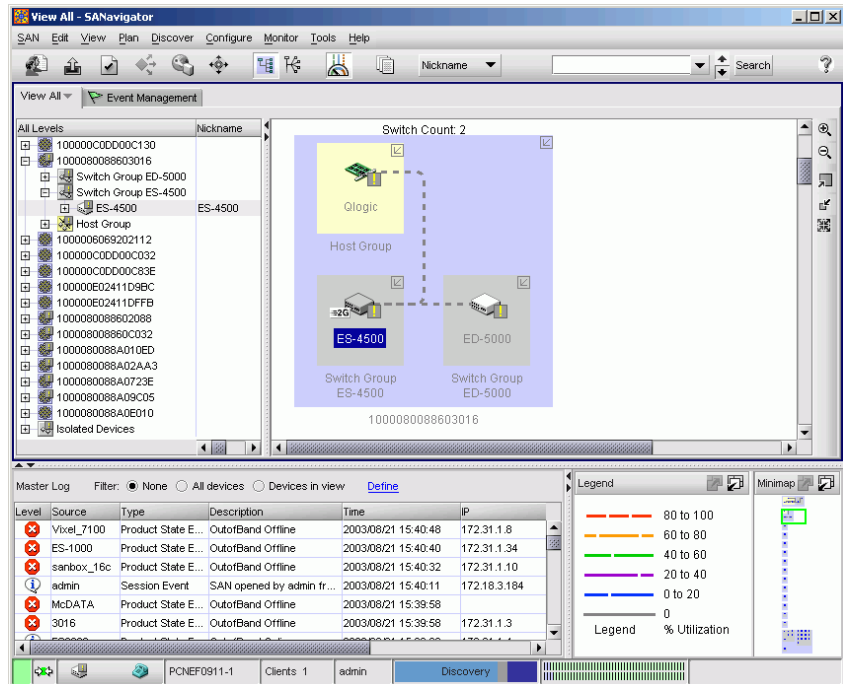

Figure 3-9 Main Window (SANavigator or EFCM)
- f. Type a user ID and password (obtained in step 1, and both are case sensitive), and click *Login*. The SAN management application opens and the SANavigator or EFCM main window displays (Figure 3-9).